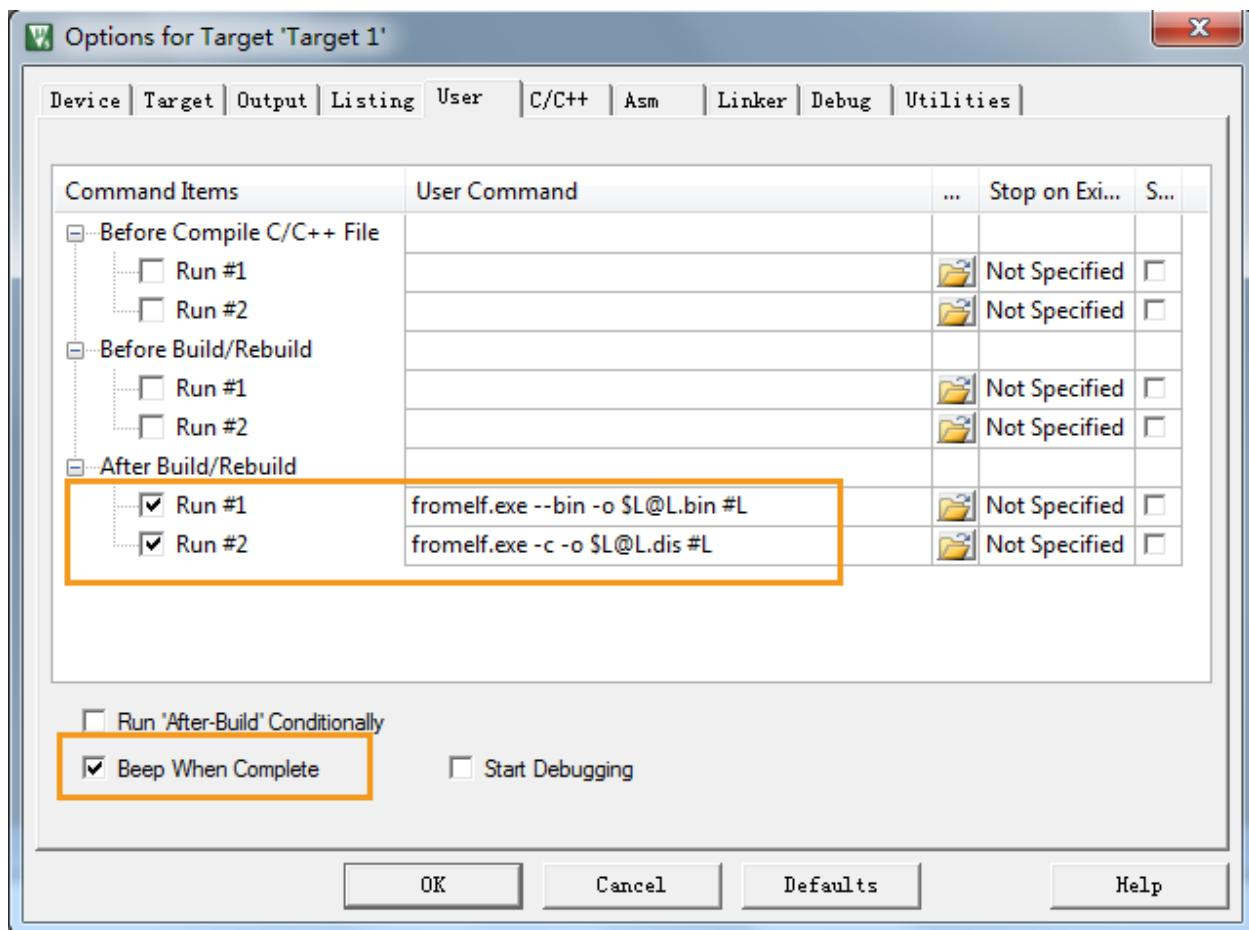

Figure 58. User defined configurations
- 2) Navigate to **User** tab, select **Run #1** and **Run #2** under **After Build/Rebuild**, fill **fromelf.exe --bin -o \$L@L.bin #L**, and **fromelf.exe -c -o \$L@L.dis #L** in **User Command** for **Run #1** and **Run #2**, then select **Beep When Complete**, as shown in Figure 58.